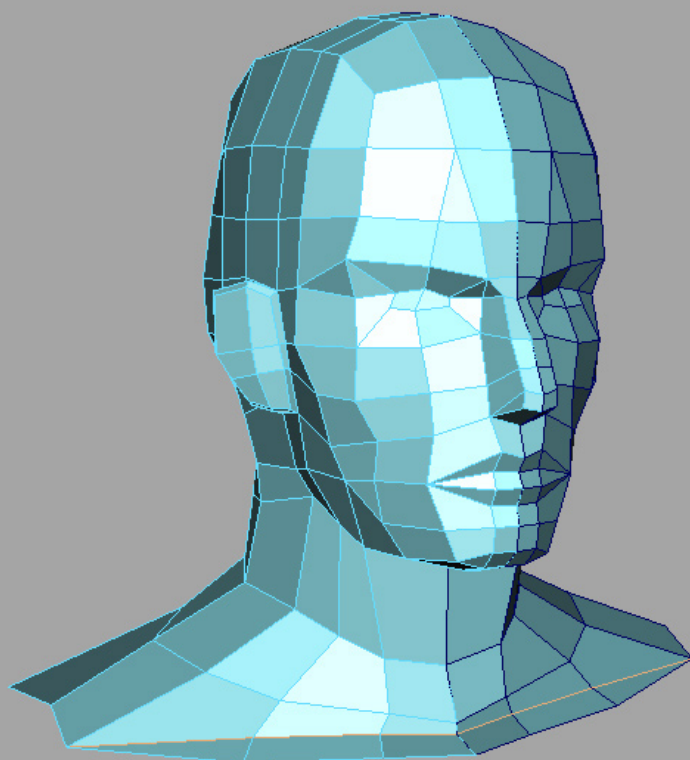

Fig 03
3. With "Edit Polygons > Split Polygon Tool" we're splitting 3 faces from the bottom of the neck "Fig 03". This will help later form the clavicle.